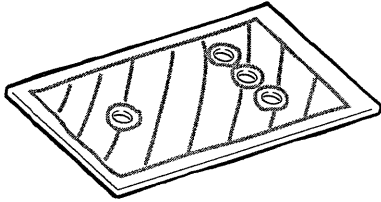

Figure 7
26. **Apply panel adhesive to curved-edge panel** in a solid bead all around the perimeter, about one inch from the edges. Be sure the bottom edge of your adhesive is higher than the vapor gap cutout on your wall. Then apply the adhesive in diagonal lines across the center of the sheet. See figure 7. Don't scribble or draw pictures! They could show through!